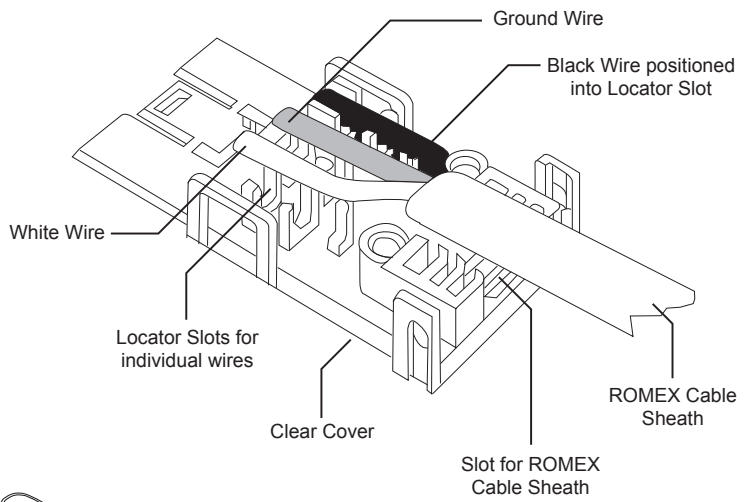

Figure 42
5. While holding the clear cover, take the opposite piece of the connector (the Housing) and position the hinge posts into the hinge slots and push down until both posts lock into place; reference Figure 42.